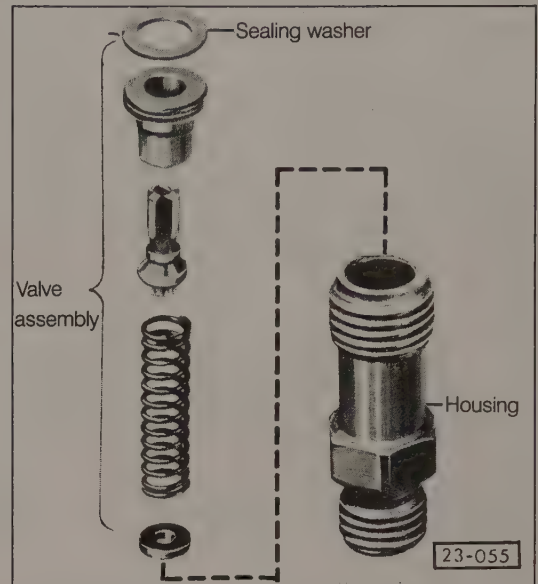

Fig. 5-24. Exploded view of injection pump valve.
6. Loosen and remove the leaking pump valve. If more than one housing is removed, be careful not to interchange parts. Fig. 5-24 is an exploded view of one valve.